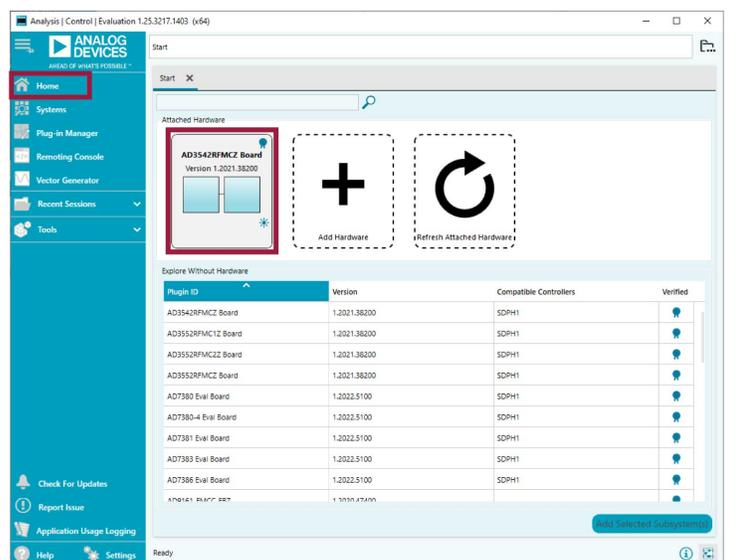

Figure 4. Start Tab
4. Click **Home** on the left-hand menu. If the EVAL-AD3542RFMCZ board is connected, it shows up in the **Attached Hardware** section as shown in Figure 4. If you do not have an EVAL-AD3542RFMCZ board, you can still explore the functionality of the plugin by double clicking the desired board in the **Explore Without Hardware** list.
5. ACE must now be able to detect the board and show it in the **Attached Hardware** section, as shown in Figure 4. Double click the **AD3542RFMCZ Board** icon to open the **Board View**, as seen in Figure 8. The green LED DS3 turns on at this moment. The **Board View** shows the relevant parts included in the evaluation board, where the AD3542R chip is highlighted in darker blue.